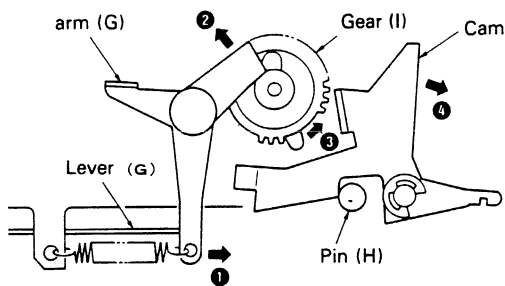

Fig. 31
2. As arm (G) is pushed, it moves in the direction indicated by arrow ② in Figure 31. As explained in the section entitled "Play Mechanism," gear (I) begins to rotate, and the catch on that gear pushes against the cam (arrow ③). As the cam begins to turn in the direction of arrow ④, pin (H) is unlocked.